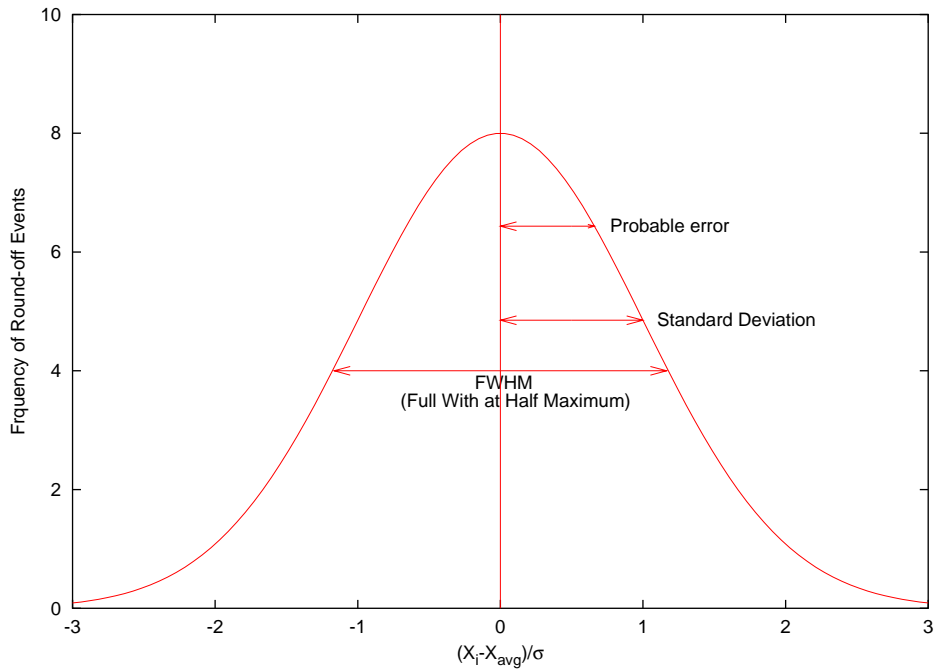

Figure 5: Typical Plot of Frequency of Round-Off Events vs the Round-Off Values
6. Make a plot of the frequency of the round-off events  $(R - \bar{R})/\sigma$  vs the round-off values. Figure 5 shows this plot for an ideal case. Note that at zero there are eight events, etc. This means that in our complete round-off data in Table 3 there were eighth zeros. Likewise, there were seven values of +0.5, etc. Does your plot follow a normal distribution similar to that in Figure 5? How do  $\sigma$  and  $\bar{R}$  compare?